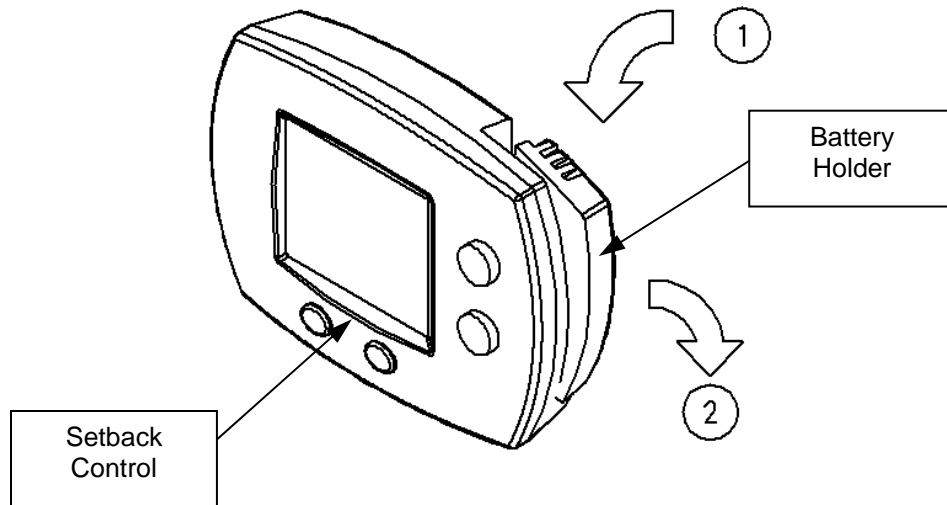

Figure 30
Step 3: Depress the top side of the battery holder and remove it. This is shown in Figure 30.